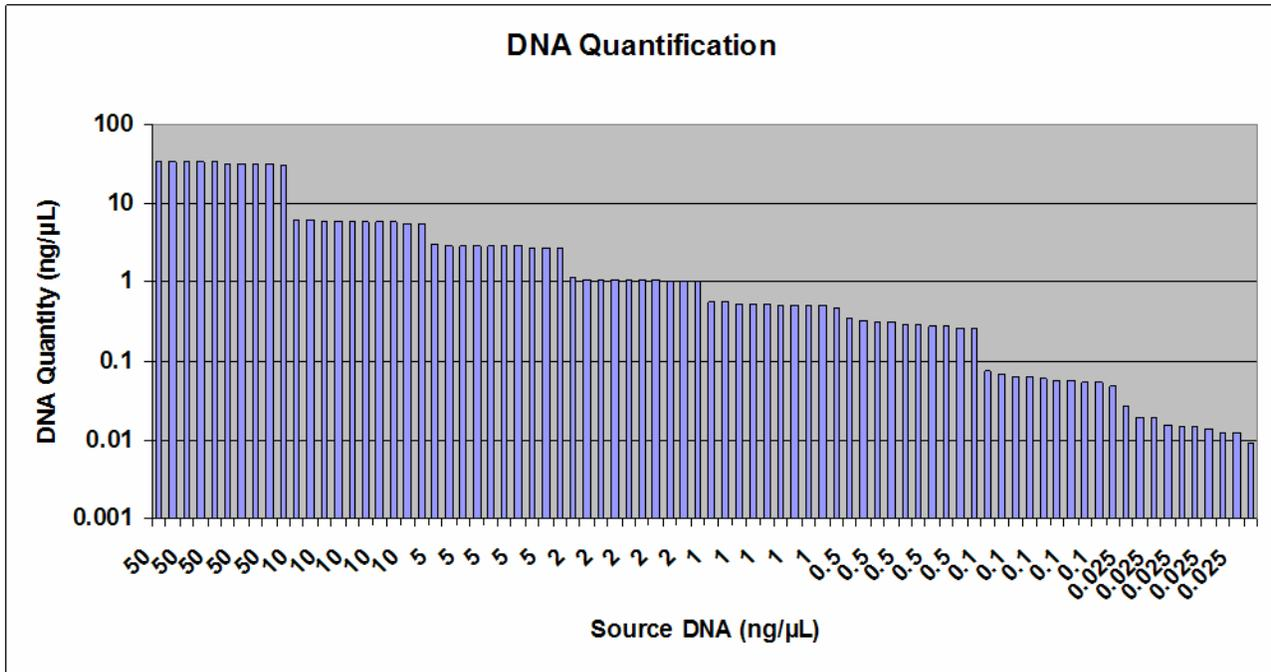

Figure 40 Quantitative results from complete system check study.
**Results** The quantification results obtained (Figure 40) were similar to the expected results across a range of concentrations from 50 ng/μL to 25 pg/μL. Quantification results were as expected for the sample DNA concentrations. Sample-to-sample reproducibility was observed among all ten replicates in each of the eight sample concentrations. A maximum standard deviation was observed at the 50 ng/μL concentration of 1.104. Other standard deviations were < 0.2 indicating minimal sample-to-sample variation.